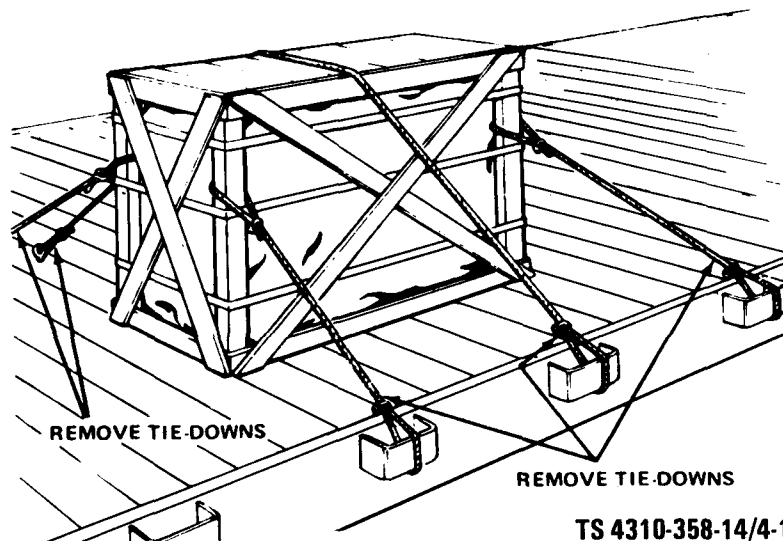

Figure 4-1. Shipping tie-downs.
a. Remove tie-downs and blocking that secure the crate to carrier. Refer to figure 4-1.